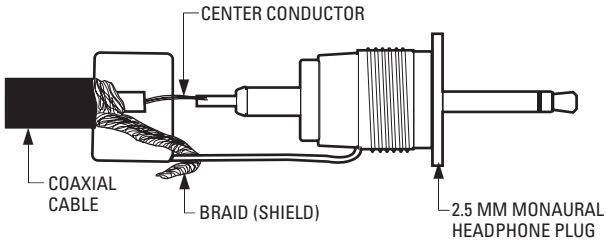

Figure 26. Attaching the 2.5 mm Monaural Headphone Plug
2. Attach the 2.5 mm monaural plug to the other end of the coaxial cable (refer to Figure 26):